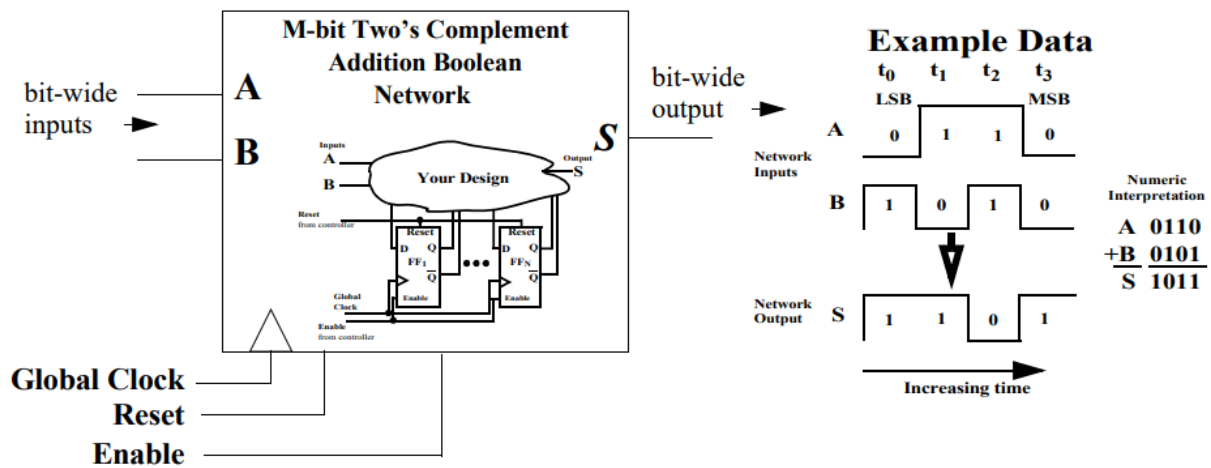

Figure 1: Functional Overview of Two's Complement Adder
This homework assignment focuses on the design of a sequential Boolean FSM network whose function is to perform a two's complement addition of two arbitrary length binary numbers A and B producing a sum S of the same length. These two inputs are assumed to be sent bit-serially in time in a least significant bit to most significant bit ordering. The output S is also assumed to be read bit-serially in time in a least significant bit to most significant bit ordering (see Figure 1). The network also contains a Reset and Enable input. The Reset input is the means by which an external controller can put this design back into its initial state so it can be used to serially sum up another two numbers. The Enable input allows the external controller to pause your design (in effect skipping clock cycles) so that it ignores inputs that are not valid. It is the job of the external controller to make sure that the Reset input to your Boolean FSM network is driven high at least one cycle and returned back to the low position before your FSM network receives its next number. It is also the job of the external network to drive the Enable input to a logic high before the active edge of the clock cycle and to remove it when ever the input data is not valid (meeting the required setup and hold times). Your job is not to develop this external controller network but rather develop the sequential FSM network in a manner the considers only the inputs A, and B, and produces the output S. In portions of this homework that require flip-flop state assignments assume that the initial state occurs when all of the flipflops are zero. This would be the case when all the flip-flop reset and enable signals are connected together as shown in the figure:
Develop a Mealy State Graph (SG) for the Two's Complement Design shown in Figure 1. The design should contain a minimum number of states to implement the desired function. Identify the initial state and fully label all states in the diagram. Also label the input(s) and output of the design. Using this state graph develop an input sequence which will transverse all arcs and nodes of the SG.
Develop a Moore State Graph, SG, for the Two's Complement Design shown in Figure 1. The design should contain a minimum number of states to implement the desired function. Identify the initial state and fully label all states in the diagram. Also label the input(s) and output of the design. Using this state graph develop an input sequence which will transverse all arcs and nodes of the SG